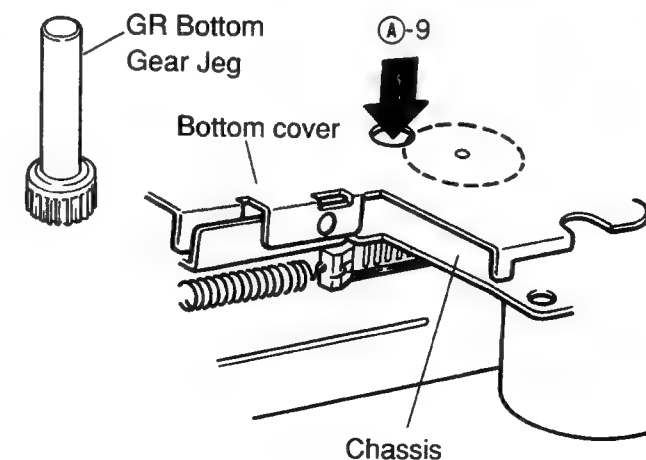

Figure 4
- (12) Since the hooks marked ①-8 will be lifted slightly as shown in Figure 4, insert the jig through the hole ①-9, and fix it turning the jig slightly in the direction ①-11.
(Refer to Figures 4 and 5.)
- (14) Insert the jig into the hole ①-9 as shown in Figure and rotate the eject solenoid counterclockwise about 20 times, pulling it in the direction ①-10 with the finger. Then the eject operation is completed. Instead of operation (14), the eject operation can be performed by mounting the mechanism to the product. (Refer to Figures 4 and 5.)